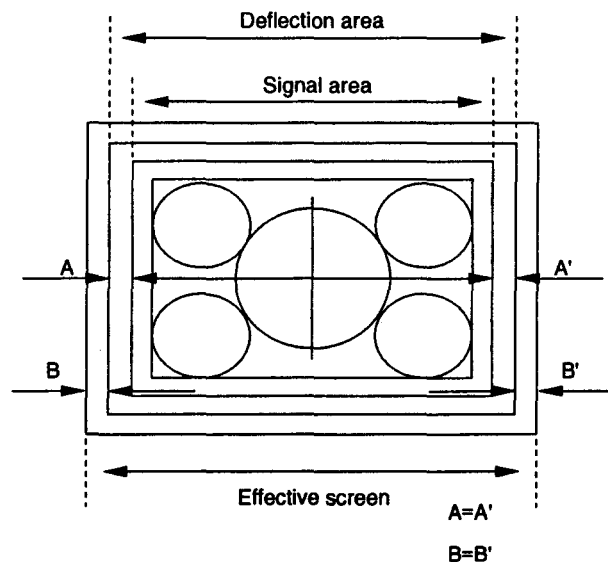

Fig.5-4
- Adjust **[60 VIDEO PHASE]** so that the signal area will be in the center ($A = A'$) of the deflection area. (Fig.5-4)